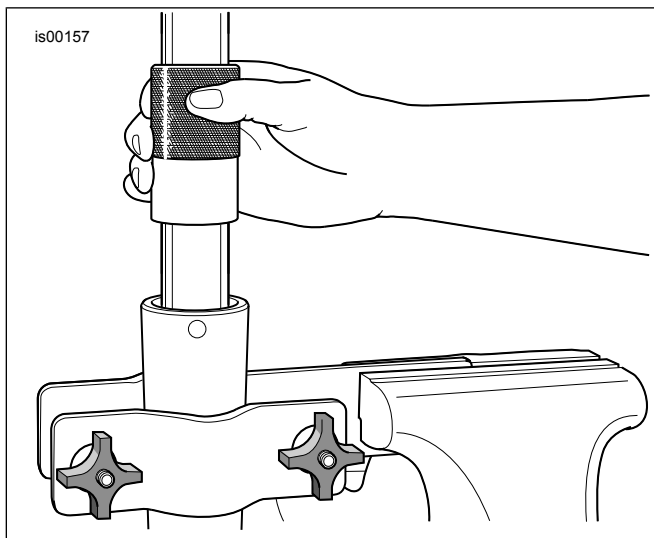

Figure 2. Install Fork Oil Seal
5. Clamp front slider (H) between rubber pads on inboard side of fork holder tool.
6. Coat inner diameter (ID) and outer diameter (OD) of slider bushing (F) with clean fork oil. Slide slider bushing down fork tube (either direction).
7. Slide slider washer (E) down fork tube until it contacts slider bushing (either direction).
8. Coat the ID of the **new** fork oil seal (3) with clean fork oil. Coat the OD of the fork oil seal with Harley-Davidson Seal Grease. With the lettering side facing up, slide fork oil seal down the fork tube until it contacts the slider washer.
9. See Figure 2. Obtain the Fork Seal/Bushing Tool (HD-45305) and proceed as follows:
- b. See Figure 2. Using the tool like a slide hammer, drive fork oil seal (with slider washer and slider bushing) down the fork tube until retaining clip groove is visible in fork slider ID.